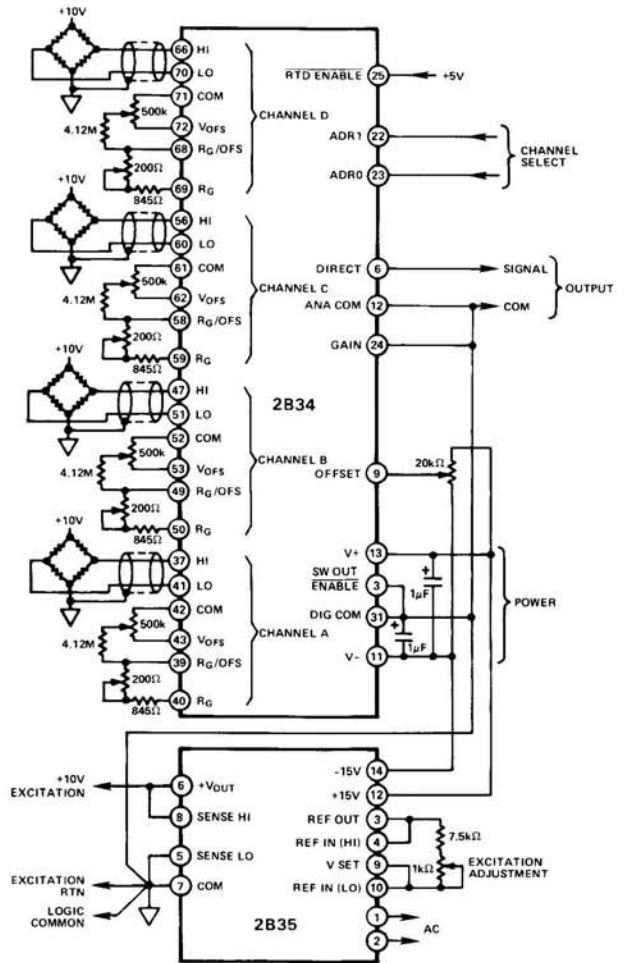

Figure 5. 2B34 Strain Gage Application
**2B34 Strain Gage Application:** Figure 5 shows a four channel strain gage input system utilizing the multiplexing feature of the 2B34. Input offset and gain adjustments are used to eliminate inherent sensor errors. The model 2B35 triple output supply may be used to provide power for the 2B34 as well as excitation for the strain gage sensors.